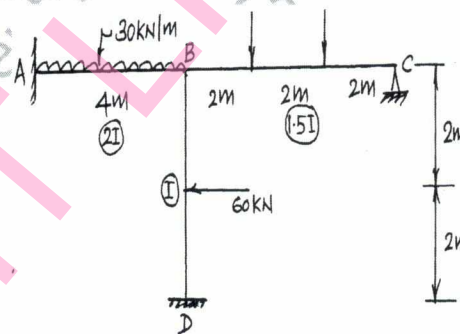

Fig. Q2
- 2 Analyse the frame shown in Fig. Q2 by using slope deflection method. Draw BMD, SFD and also sketch the elastic curve. (20 Marks)